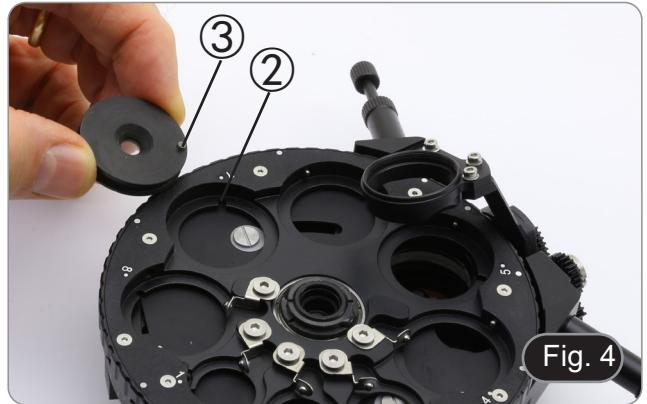

Fig. 4
- 1. Align the foot on the underside of the DIC prism ③ (Fig. 4) with the notch on the condenser ②.